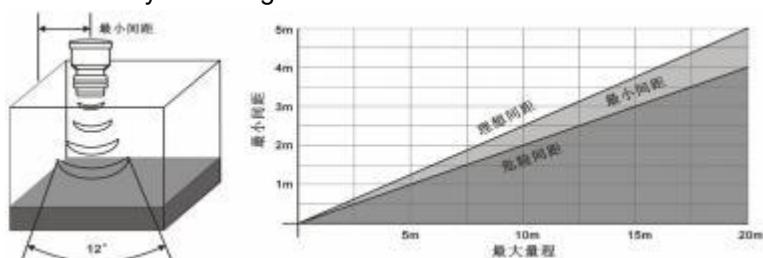

Figure 4
7.1.4 Probe installation shall ensure that the acoustic wave path emitted by the probe remains within the ideal zone defined relative to the container wall as shown in Figure 4. For the measurement range corresponding to the distance between the probe and the container wall as depicted in Figure 4, if this distance falls below the threshold specified for the ideal zone, the probe must be installed within the "minimum clearance" zone. If the installation distance from the side wall remains below the "minimum clearance" line, the transmitter may fail to measure the level accurately. See Figure 4.